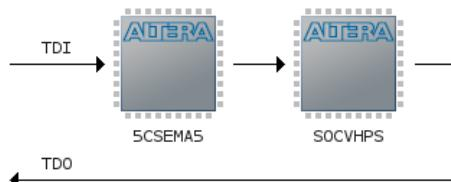

Figure 8-17. JTAG Scan Chain
You should now see 2 devices on the JTAG scan chain, as shown in Figure 8-17.
38. Right-click on the “5CSEMA5” device shown in Figure 8-17 and choose “Edit > Change File”. Then, select “DE1\_SoC\_demo/RTL/quartus/output\_files/DE1\_SoC\_demo.sof” through the file browser.